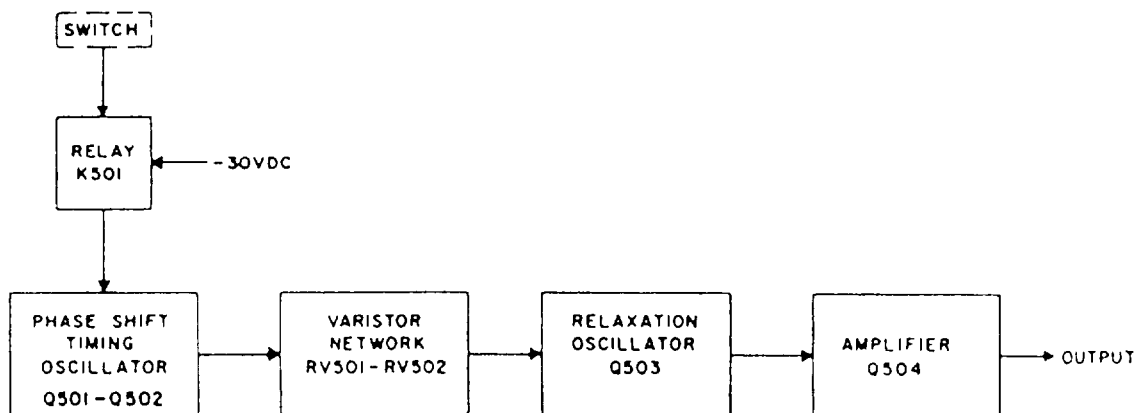

Figure 7-15.—Block diagram of the flight crash alarm module.
**FLIGHT CRASH ALARM.**— The flight crash alarm consists of a phase shift oscillator that controls the frequency of a relaxation oscillator through a varistor network and an amplifier stage producing a siren tone. Figure 7-15 is a block diagram of a flight crash alarm module. Operation of the flight crash alarm contact maker supplies -30 volts dc through relay K501 to all stages of the circuit.